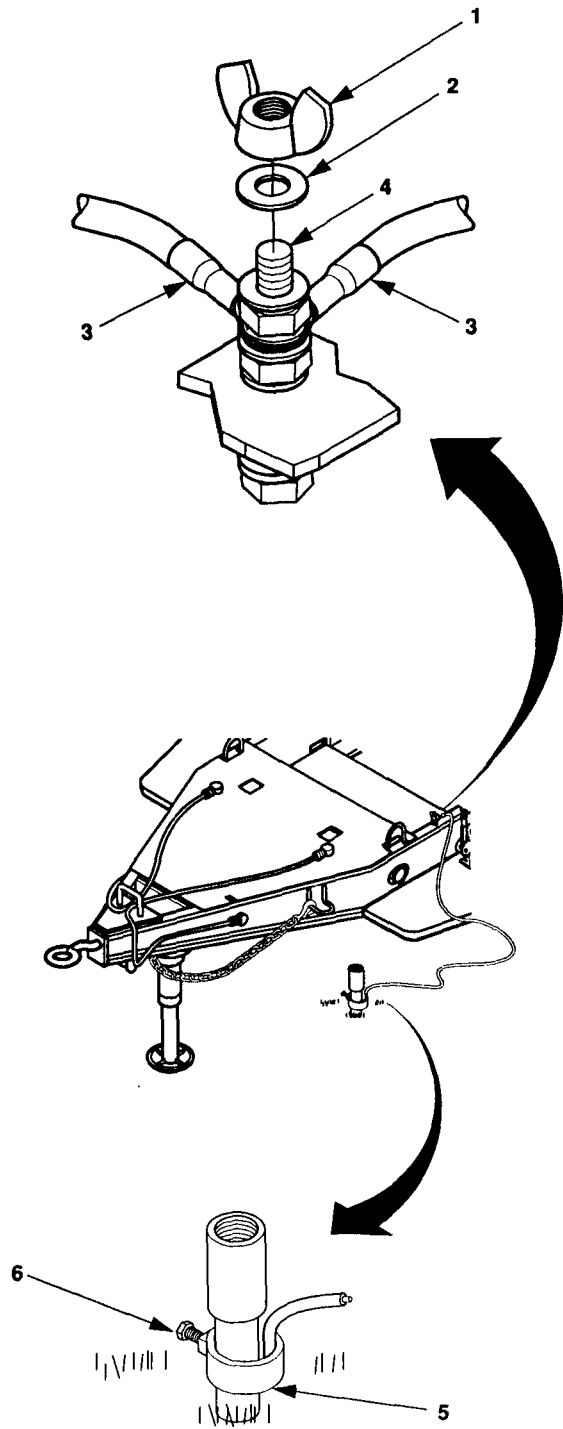

Figure 2-4. Typical Ground Rod Installations.
2-3.3 Grounding of Generator Set. Ground the equipment in accordance with Army Field Manual FM 20-31. Typical ground rod installations are shown in figure 2-4. If a ground rod is used, install and connect it as follows:
- (1) Remove and retain wing nut (1, figure 2-4) and washer (2) from trailer ground stud (4) and install ground cable terminal (3) to ground stud (4).
- (2) Install washer (2) on ground stud (4).
- (3) Thread wing nut (1) on the ground stud (4) and tighten.
- (4) Insert ground cable end into ground cable clamp (5) and tighten clamp screw (6).